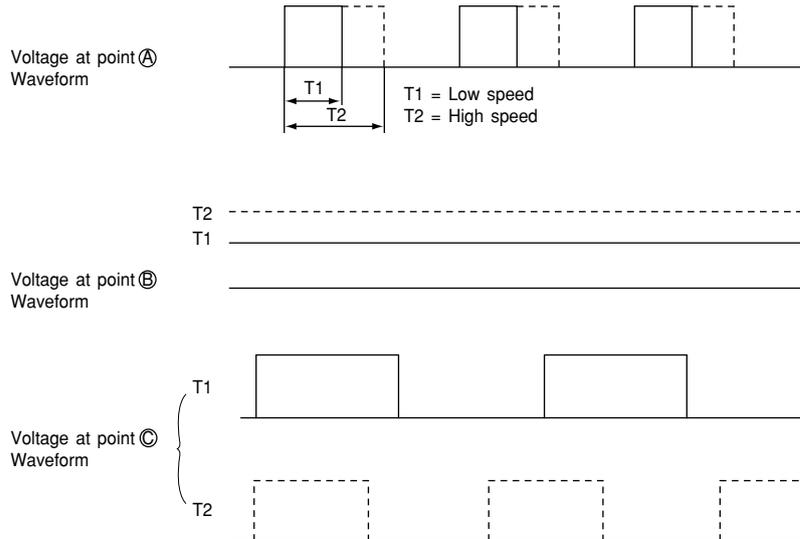

Fig. 7-2
- For the point **(A)**, 15.7 kHz PWM pulse will be output from the pin **(24)** on the micro computer as shown in Fig. 7-2. The pulse range will vary with different command speed.